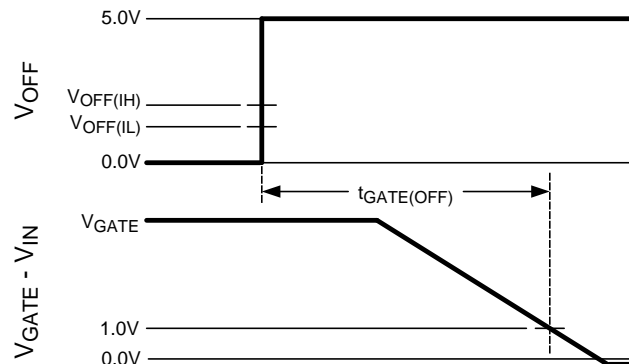

Figure 5. Gate Off Timing for OFF pin Low to High Transition
(3) Time from V_{OFF} voltage transition from 0.0V to 5.0V until GATE pin voltage falls to $V_{IN} + 1\text{V}$. See Figure 5